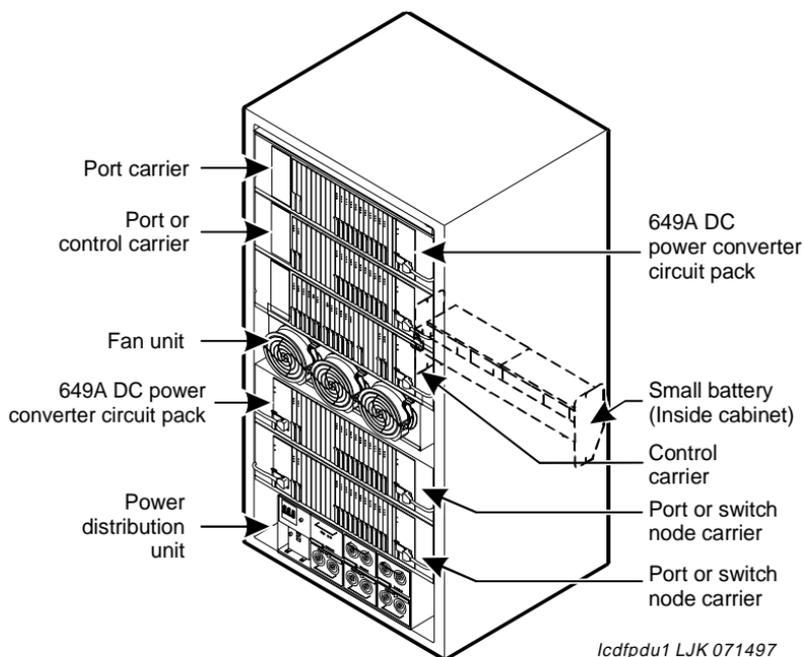

Figure 27. Power Distribution in Multicarrier Cabinets
Figure 27 shows the power distribution in some Multi-Carrier Cabinets with short term battery holdover (small battery). In R7r and later systems, the power distribution cables are on the right hand side of the cabinet only. This is because the 649A DC power converter circuit pack replaces 2 power converters at either end of each carrier. Switch node (SN) carriers require two 649As and 2 cables.